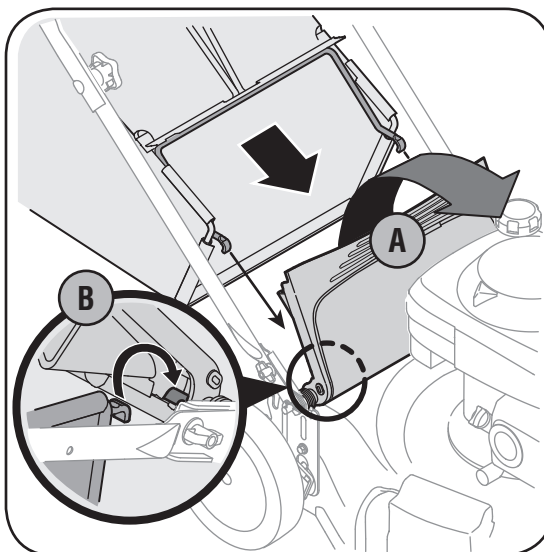

Figure 3-6: Attach the grass catcher.
- b. Place grass catcher on the pivot rod. Let go of discharge door so that it rests on the grass catcher, Figure 3-6.